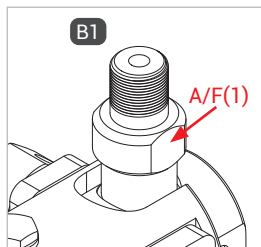

Figure 2
- ▶ When mounting the filling hose, hold an open-ended wrench against the wrench size A/F(1) (Figure 2).
- ▶ Screw the media inlet "B1" pressure-tight onto the connection port of the filling hose (Figure 2). For the tightening torque, please refer to the table below. **Note:** For NPT thread, first wrap Teflon tape round the tapered screw fitting (1.5 layers). Screw the fitting finger-tight into the port and install it in accordance with the information in the table below.